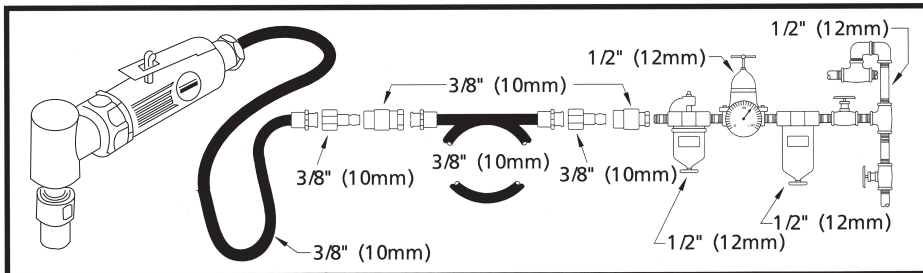

Figure 2 - Air Diagram
- Supply tool with 90 PSI of clean, dry air. Higher pressure drastically reduces tool life. Connect tool to air line using pipe, hose and fitting sizes shown in Figure 2. Do not install a quick coupler directly into the grinder throttle handle.
Do not use quick disconnect couplings at tool. See Figure 2 for correct set-up.